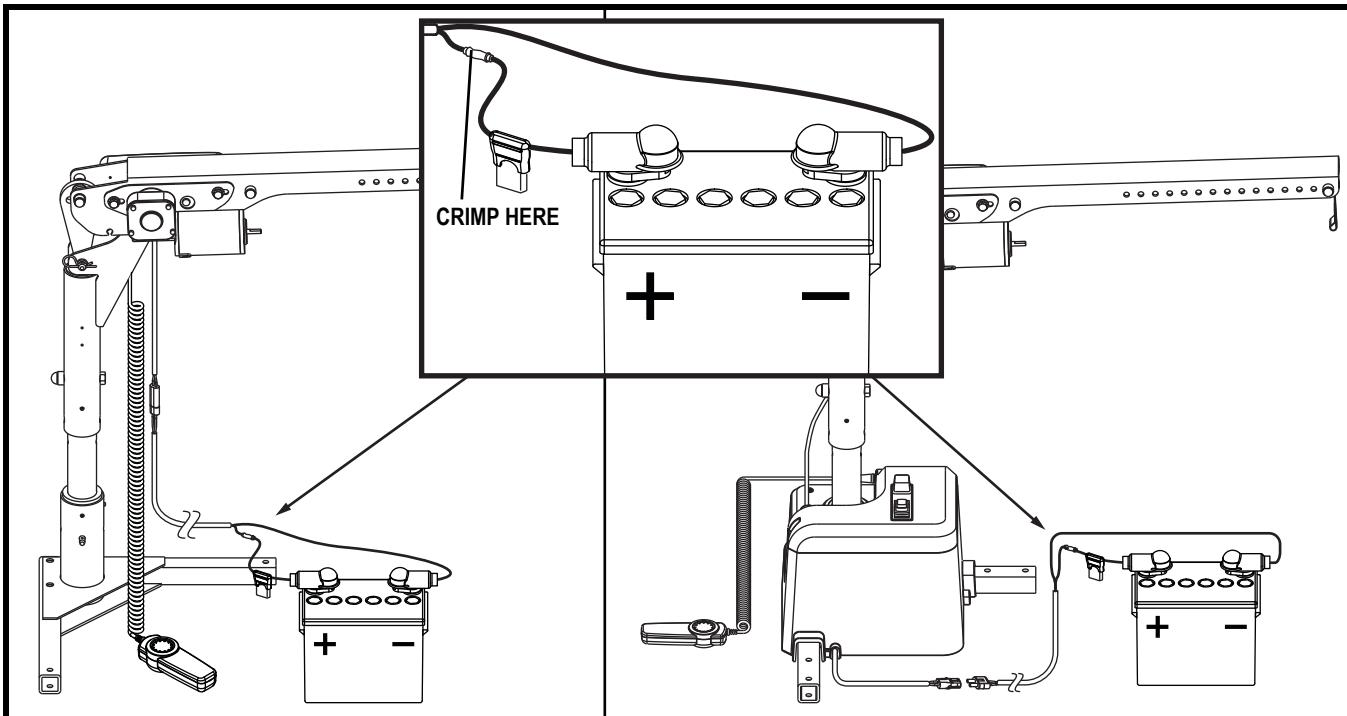

Figure 5. Electrical Wiring Connections
1. Route the hard wire kit (starting at the lift) through the interior of the vehicle until you reach the automobile battery. See figure 5. Conceal the wire behind or under the interior panels. Be certain that the wire is protected with a rubber grommet when passing it through the metal panels and into the engine compartment. Inside the engine compartment, secure the wire to the firewall and the inner fender with the supplied plastic wire ties. Use care not to cause abrasions to the power wire. It is important to secure the power wire at various points along its run.